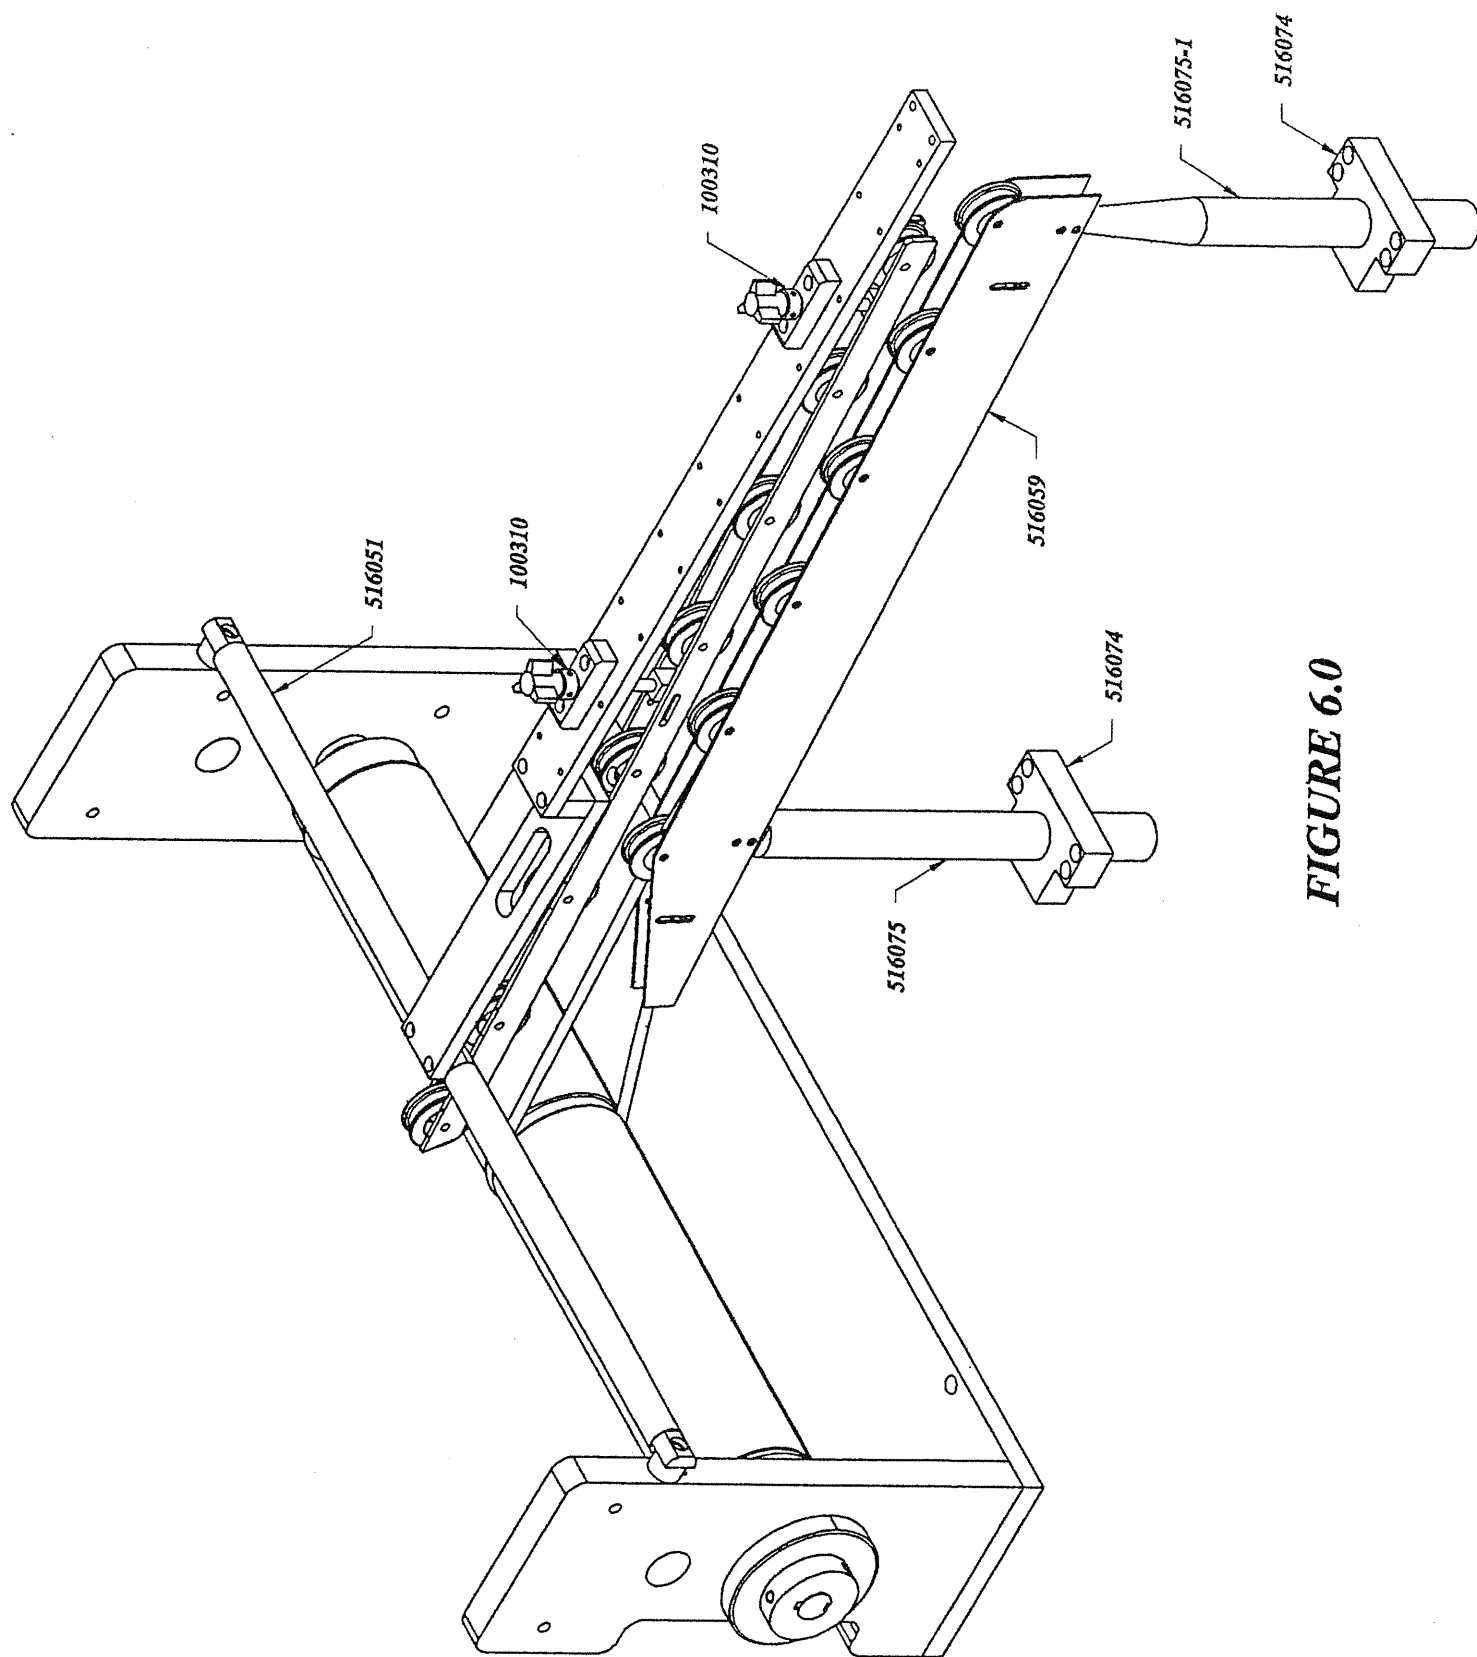

FIGURE 6.0
necessary, use the following procedure. See Figure 6.0
5. Adjust round belt top roller assembly. See Figure 6.0